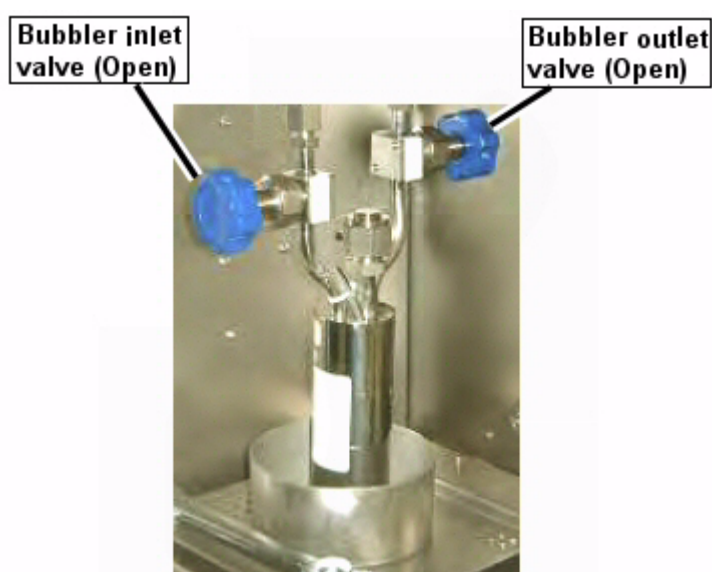

Figure 5-40 Ampoule manual valves set for bubbling mode
- 1 Check that the manual inlet valve on the precursor ampoule is open (see Figure 5-40).